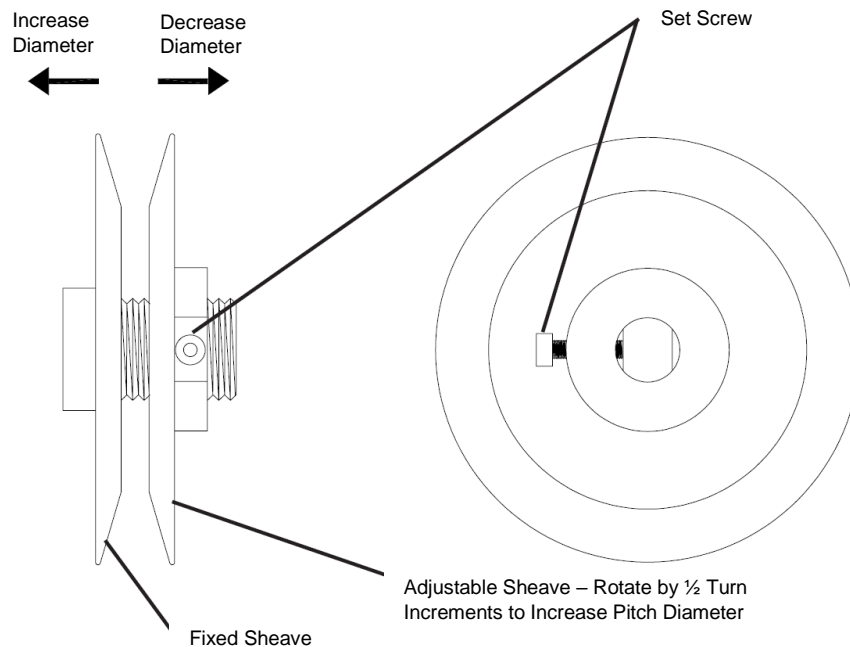

FIG. 1
3. Loosen pulley adjustment set screw on motor pulley and screw adjustable sheave out away from fixed sheave. Tighten set screw onto flat of fixed screw (FIG. 1).